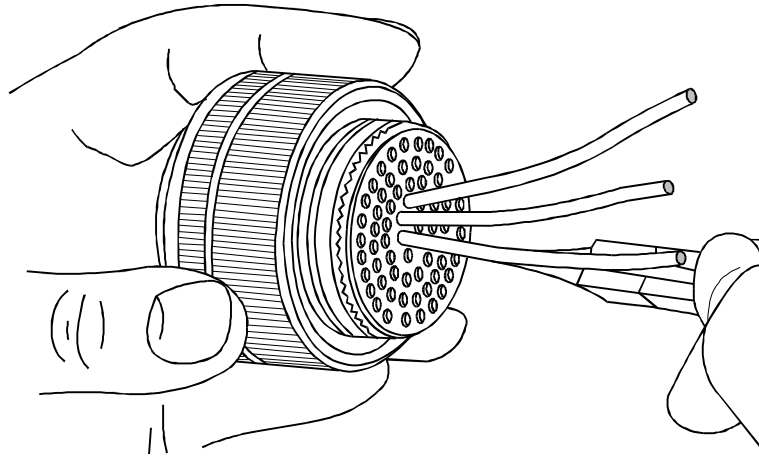

Figure 1-45
3. Holding the tool at right angles to the grommet face, centre over the contact being removed and push wire into the groove of the tool, as shown in Figure 1-45.